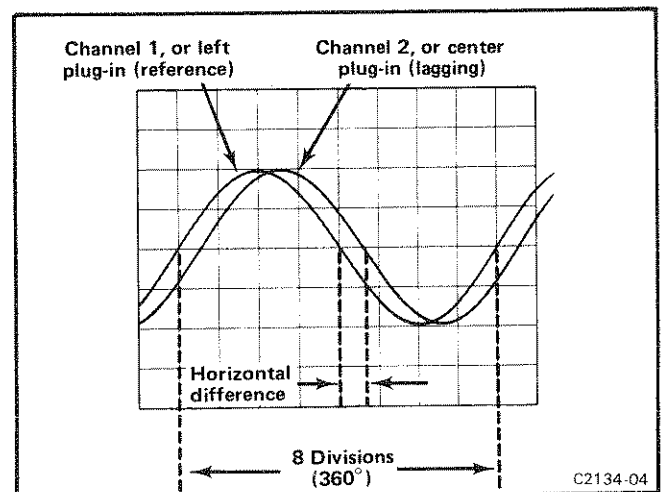
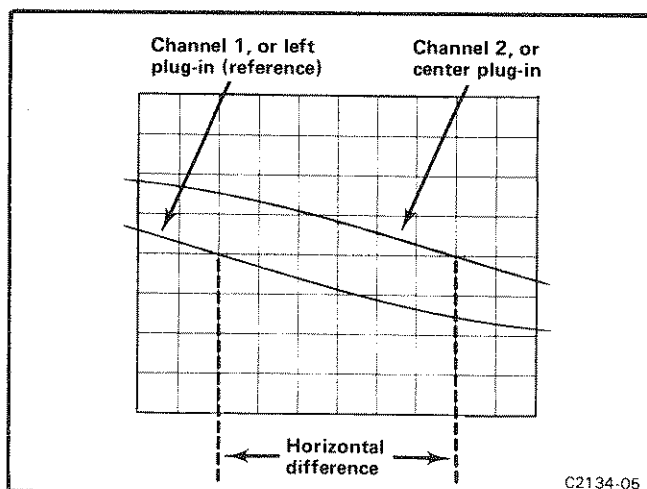

Fig. 1-7. Measuring phase difference.
Fig. 1-8. High-resolution phase difference measurement with increased sweep rate.
9. Turn the variable Seconds/Div control until one cycle of the reference signal (Channel 1, or left plug-in) occupies exactly eight divisions between the second and tenth vertical lines of the graticule (see Fig. 1-7). Each division of the graticule represents 45° of the cycle ($360^\circ \div 8 \text{ divisions} = 45^\circ/\text{division}$). The sweep rate can be stated in terms of degrees as $45^\circ/\text{division}$.
EXAMPLE: Assume a horizontal difference of 0.6 division with a sweep rate of $45^\circ/\text{division}$ as shown in Fig. 1-7. Use the formula:
EXAMPLE: If the sweep rate were increased 10 times with the magnifier, the magnifier sweep rate should be $45^\circ/\text{division} \div 10 = 4.5^\circ/\text{division}$. Figure 1-8 shows the same signals as used in Fig. 1-7, but with the Swp Mag button pushed in. With a horizontal difference of six divisions the phase difference is: